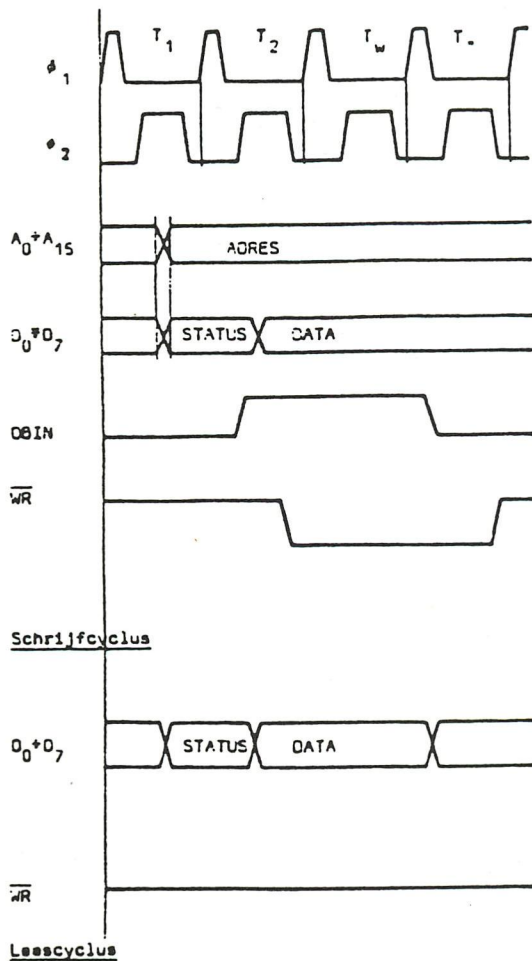

fig. 3.1
- VEREENVOUDIGD TIJDSDIAGRAMMA (fig. 3.1)